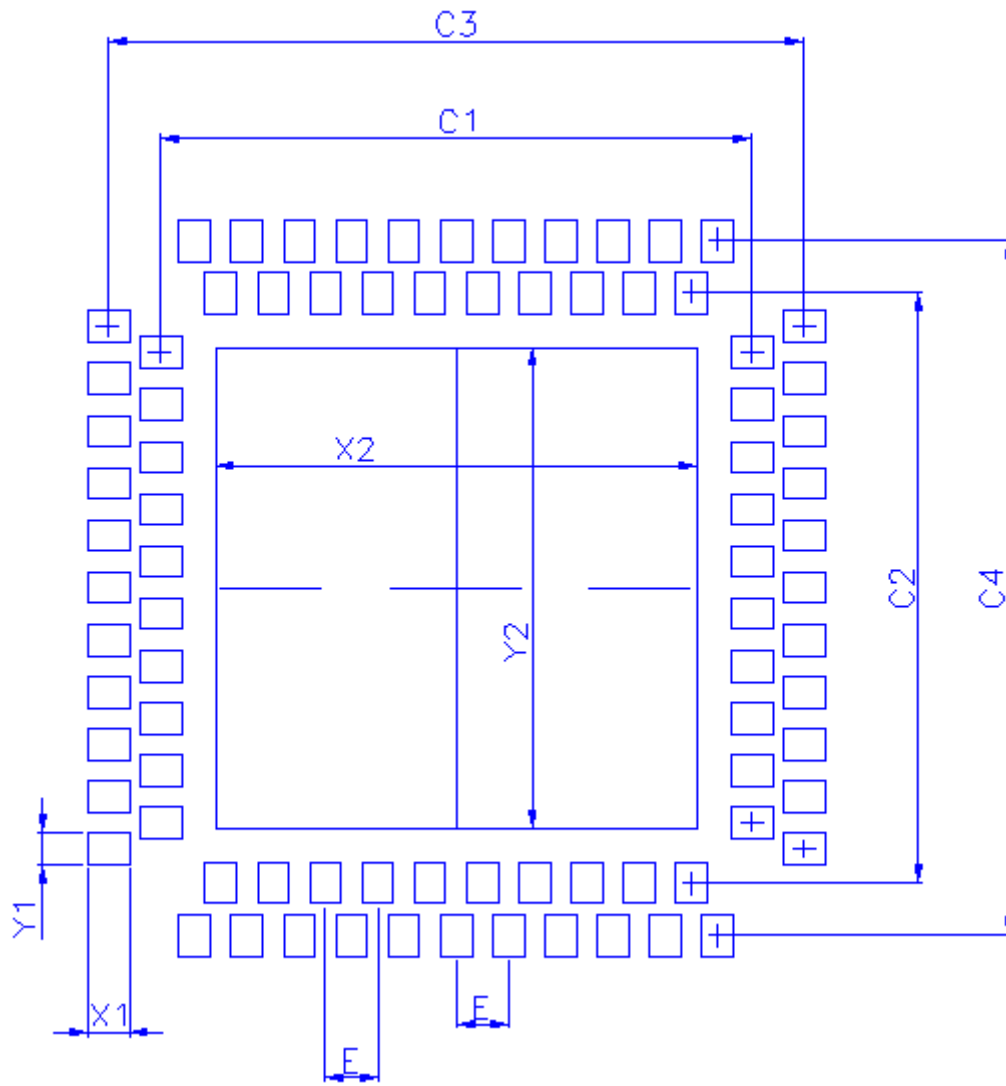

Figure 9.2. PCB Landing Pattern - DR-QFN
- Figure 9.2 PCB Landing Pattern - DR-QFN on page 169: Corrected dimensions C1, C2, C3, C4